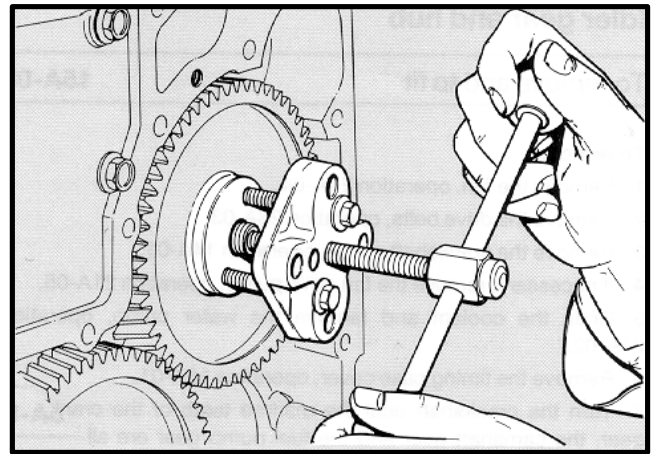

FIGURE 62. REMOVE THE CAMSHAFT GEAR
3. Camshaft gear. Remove the capscrew and washer. Use a puller and adaptor to pull the gear from the camshaft. Make sure that the woodruff key in the camshaft is not lost. Inspect the camshaft gear for wear and damage. See FIGURE 62.